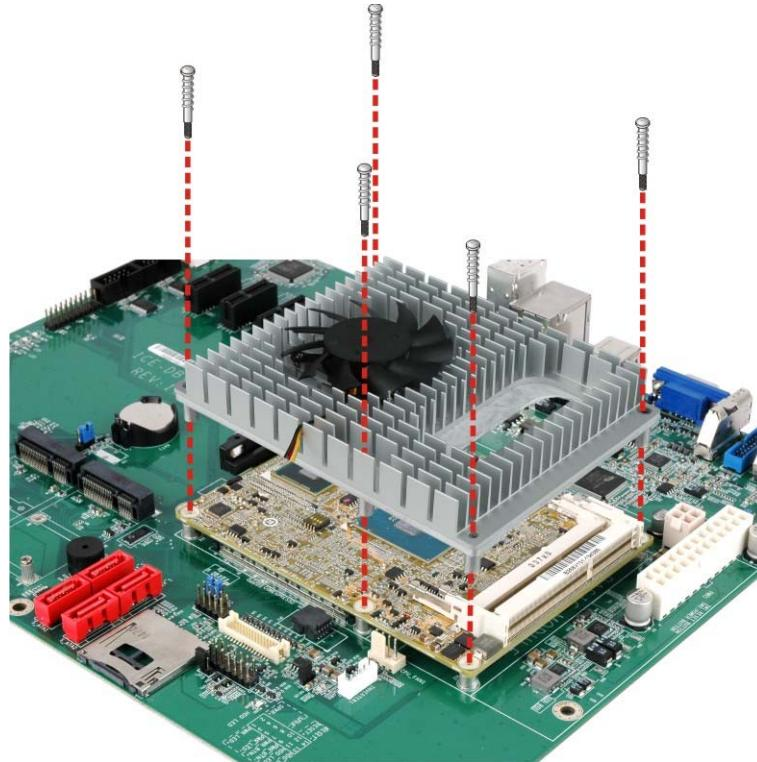

Figure 4-5: Secure the Heatspreader Plate with the Cooling Kit to the Baseboard
Step 3: Place the heatspreader plate with the cooling kit on the ICE-QM871, aligning the retention screw holes (Figure 4-5).
Step 4: Secure the heatspreader plate with the cooling kit onto the baseboard with the supplied retention screws (Figure 4-5).